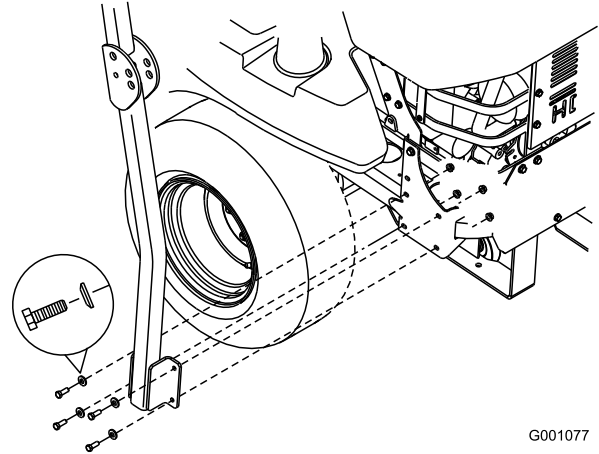

Figure 3
2. Install the ROPS to the frame on both sides with 8 bolts (3/8 x 1 inch), 8 curved washers, and 8 flange nuts (3/8 inch) (Figure 3).